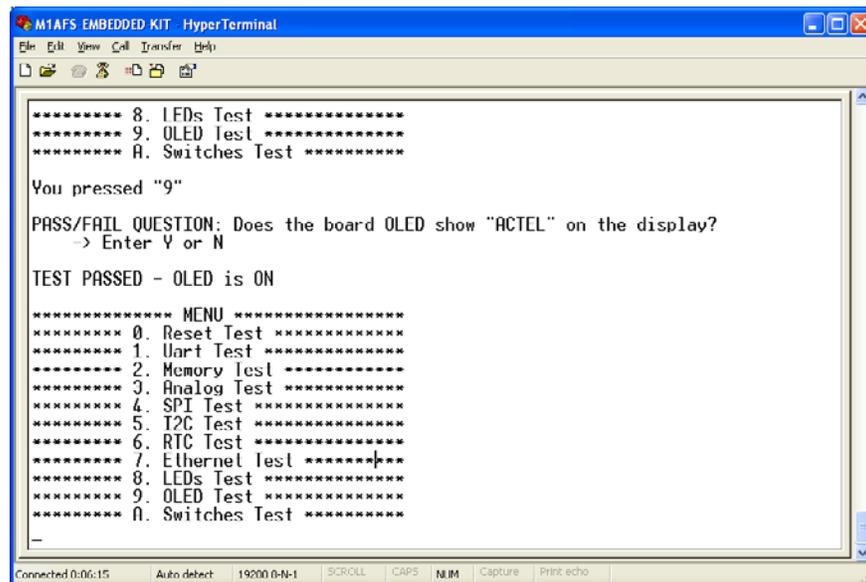

Figure 2-15 · OLED Test Results
- Check the board OLED display. If “ACTEL” is displayed in the OLED, then enter ‘Y’ in the terminal; otherwise, enter ‘N’. If ‘Y’ was entered, the results appear on the screen (Figure 2-15).